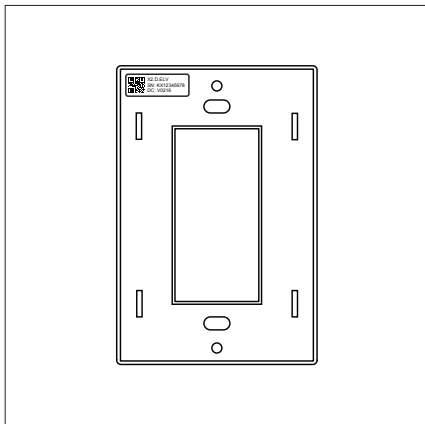

fig. 8
10. Place one serial number sticker on the back of the wall plate. The other can go on building plans or control drawings (see figure 8).